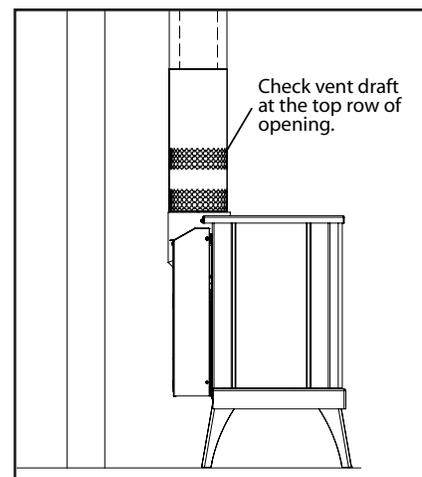

Figure 54: Draft test place.
4. After a minimum of 10 minutes operation, test the chimney draft with a smoke match at the top row of the pattern to confirm that there is adequate draft or 'pull' at the openings around the body of the Drafhoad Adaptor, as shown in Figure 54.